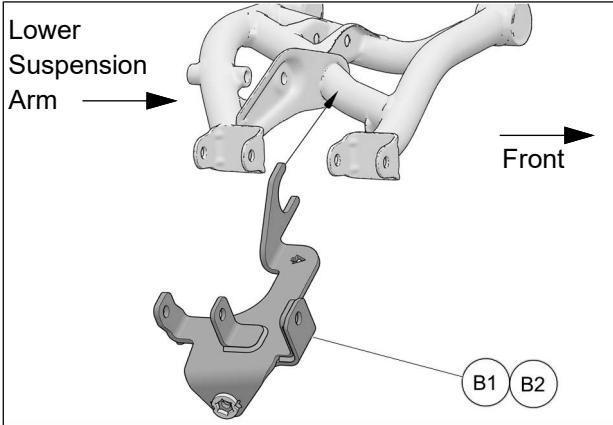

Fig. 5
5. Hook the back end of anchor bracket (**B1-B2**) on cross-member of lower suspension arm. See Fig. 5